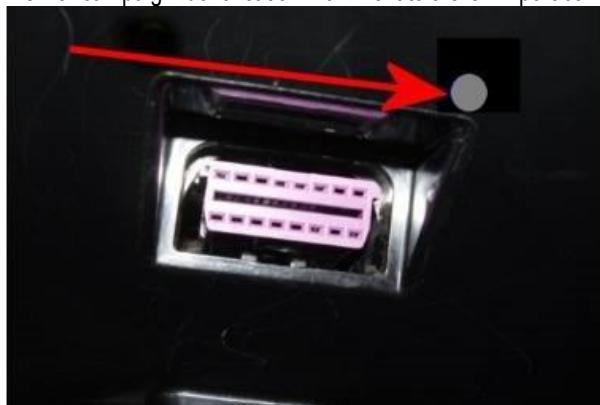

Figure 4
If the vehicle is not already listed as repaired in the “Repair History” (Elsa Pro) check for the presence of the silver paint completion mark as shown within the Identification section (Figure 4)
9) Apply a silver paint completion mark as shown in the Identification section (Figure 4)
A silver campaign identification mark next to the OBD port confirms completion (Figure 4)